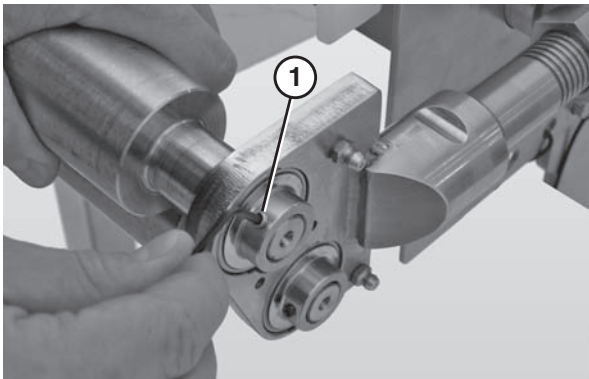

Figure 89
5. Use a 4 mm hex wrench to loosen all the bearing fasteners (**Figure 89, item 1**).